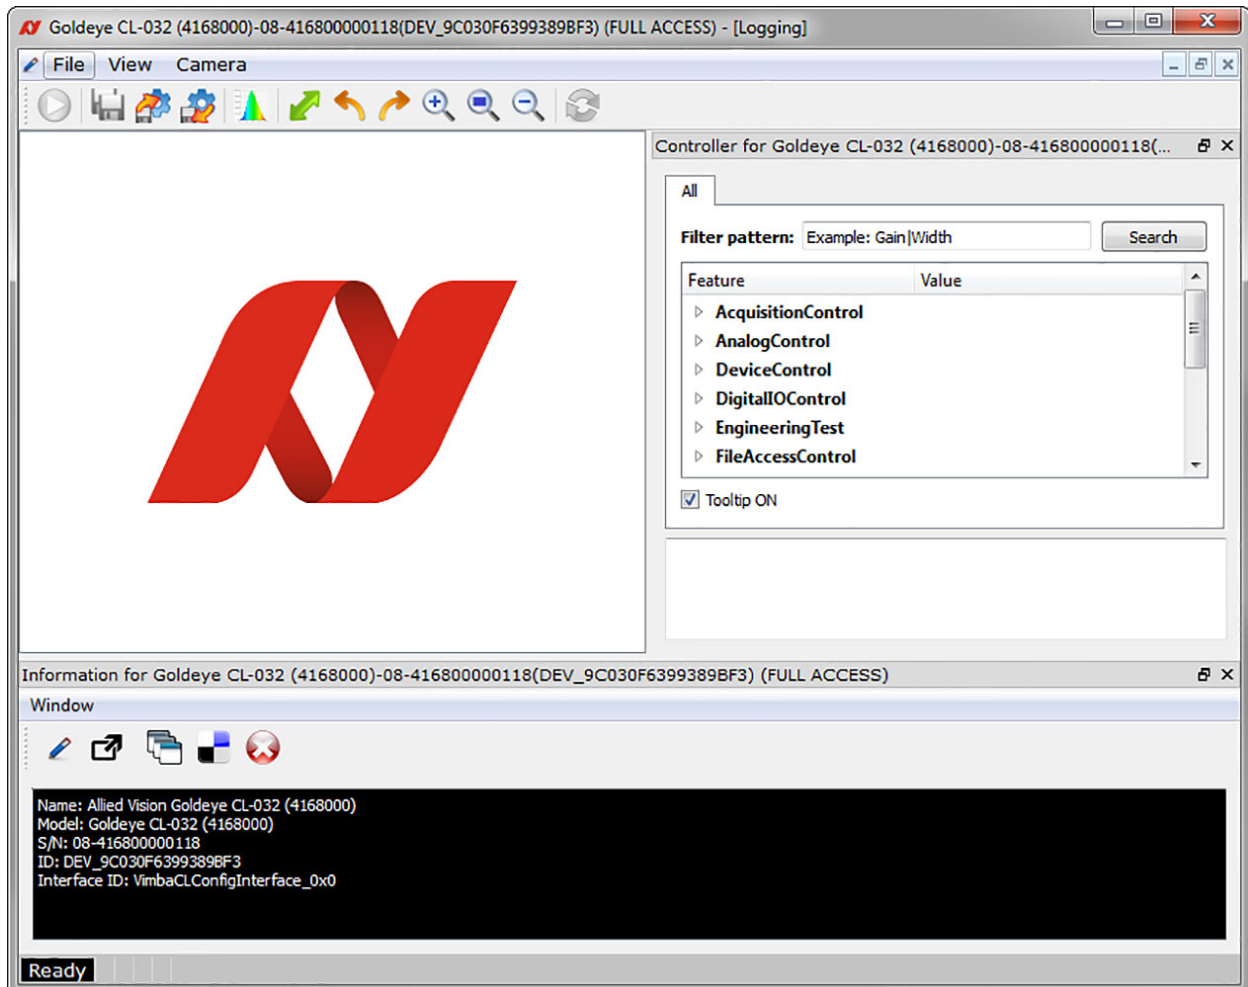

Figure 4: Vimba Viewer window
- 4. A new camera window appears, as shown in Figure 4 on page 44. This camera window consists of the following components:
The controller window is displayed in the top right section of the Vimba window, refer to Figure 4 on page 44. It is used to configure the camera frame rate, exposure time, pixel format, and much more.